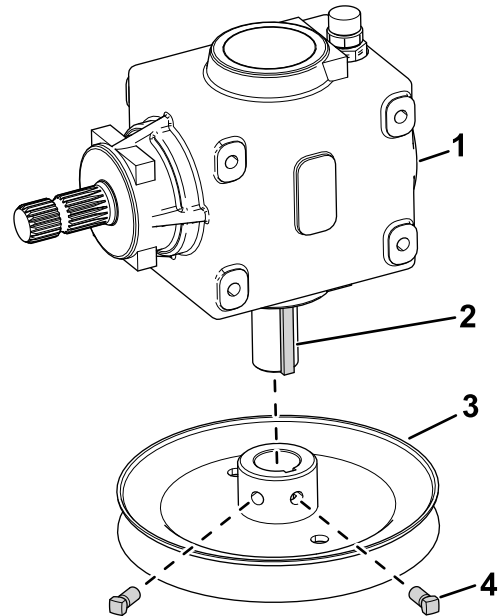
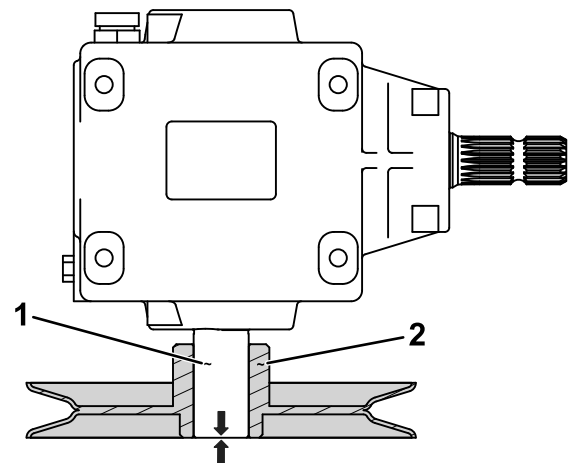

Figure 3
Figure 4
3. Remove the 2 square-head screws from the existing gearbox pulley (Figure 3).
5. Apply anti-seize compound to the gearbox shaft (Figure 4) and keyway.
7. Ensure that the shaft is flush with the pulley-hub end (Figure 4) and that the square key (Figure 3) is not protruding from the pulley hub.
9. Use the square-head screws to secure the new pulley to the gearbox shaft (Figure 3).